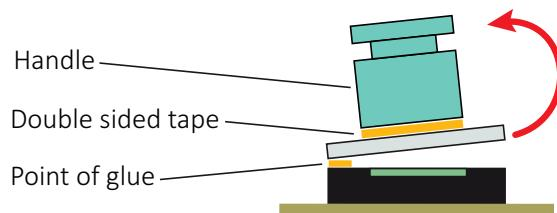

Figure 8: "Handle" flipping up the TCG (schematic view)
6. **Holding down the camera board**, move the **Handle** down towards the TCG until you feel full contact. Slowly flip up the **Handle** until the point of glue breaks as shown below in Figure 8: